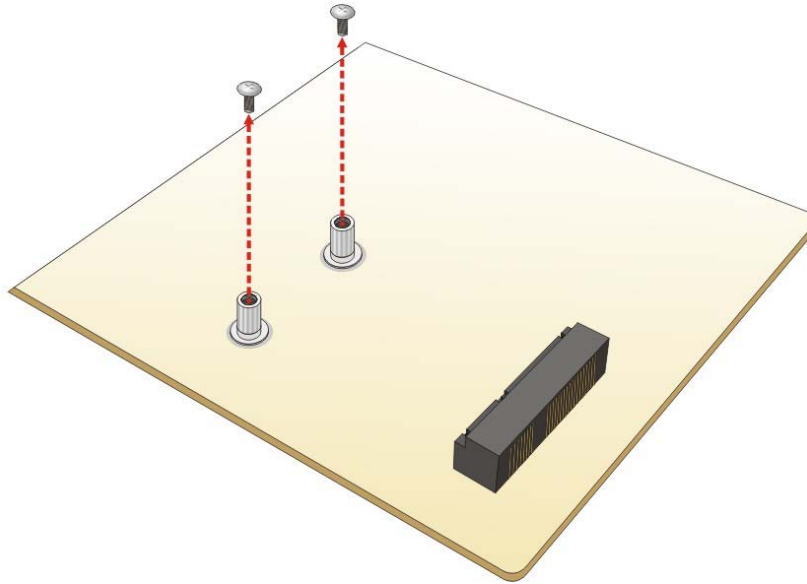

Figure 4-7: Remove the Retention Screws for the PCIe Mini Card
Step 2: Remove the retention screws. Remove the two retention screws secured on the motherboard as shown in **Figure 4-7**.